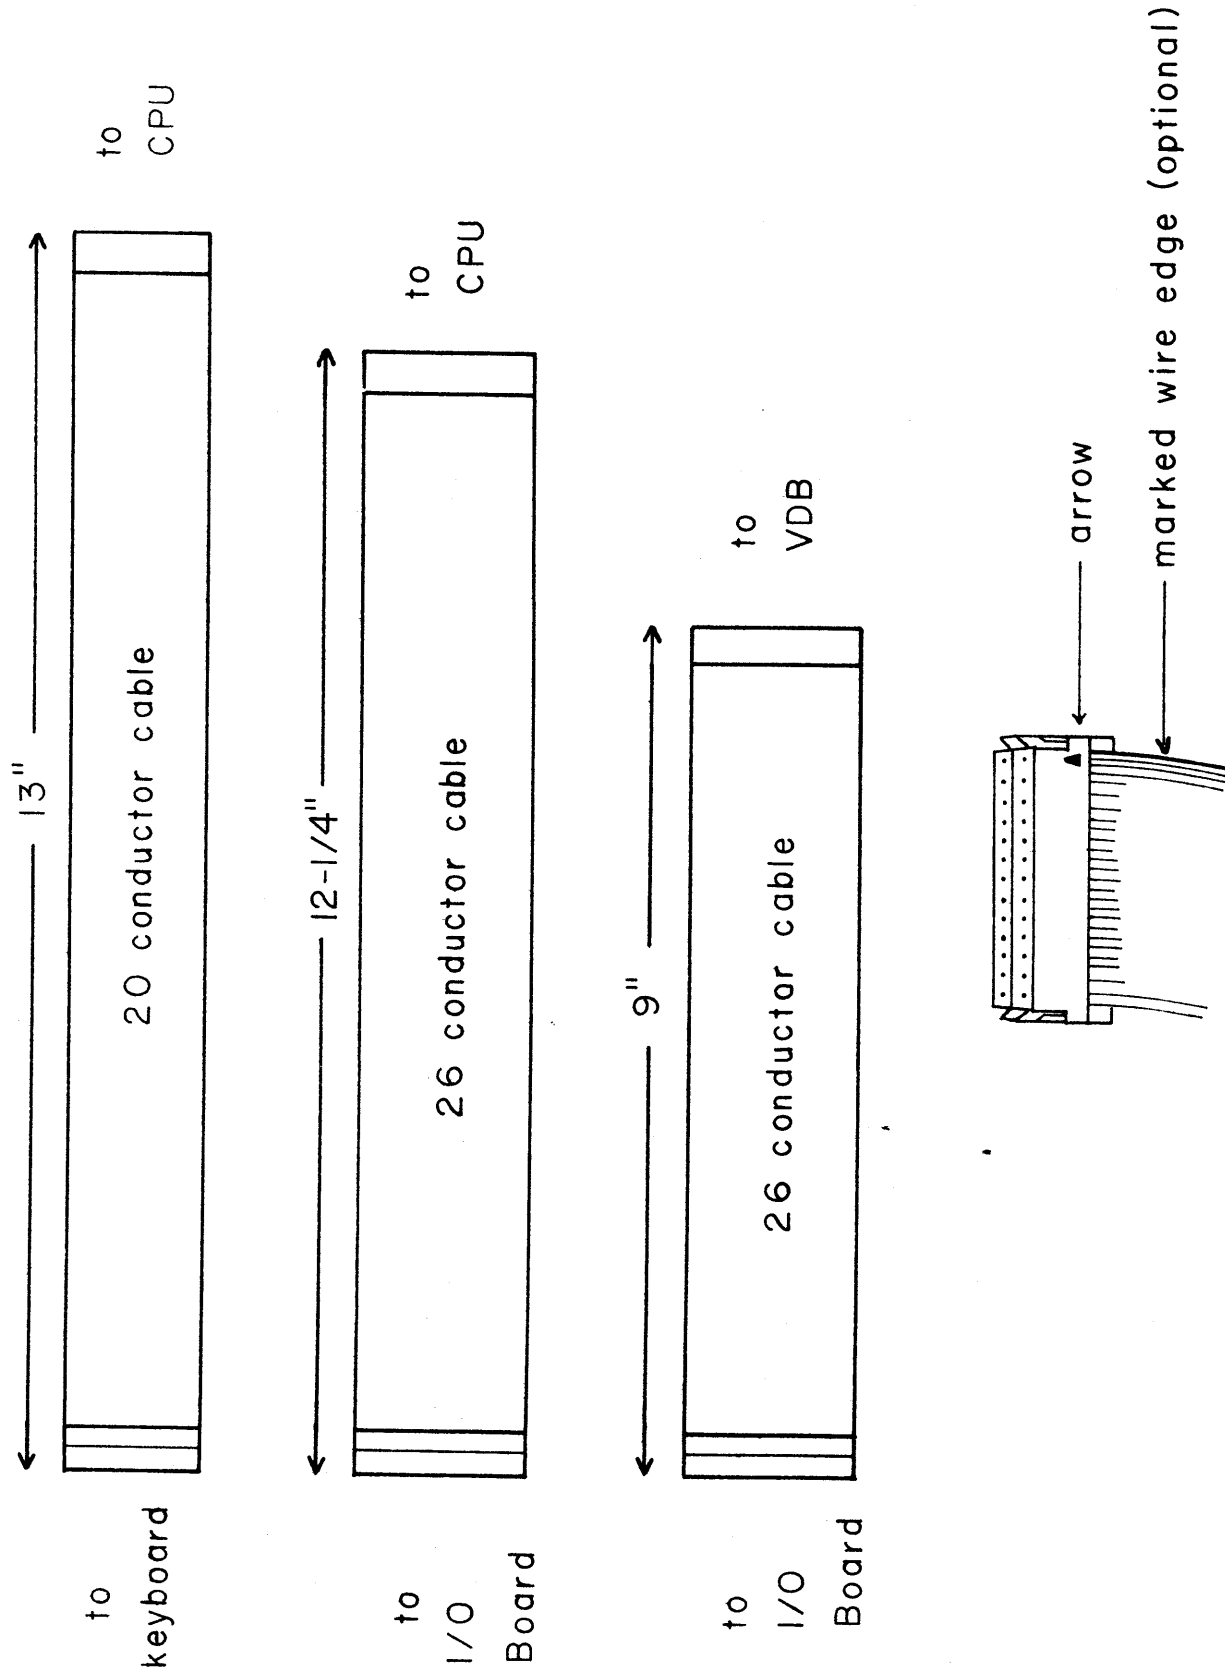

FIGURE 2.3 ASR CABLES AND CONNECTORS USED BETWEEN SUBASSEMBLIES
2. Be sure to reinstall the CPU and VDB cards in the proper slots of the card cage: VDB on top, CPU on bottom (refer to Fig. 2.2). Also, be sure that cables are connected in the same manner that they were originally, with arrows on ribbon-cable plugs mating with those on the board sockets. Note that in the photographs the cables are always installed so that the ribbon wires protrude from the lower edge of the plug when viewed as shown in Fig. 2.2. Make sure that both boards are securely seated in their respective backplane edge connectors before installing the retaining bracket. Refer to Fig. 2.3 for details of ribbon cables.